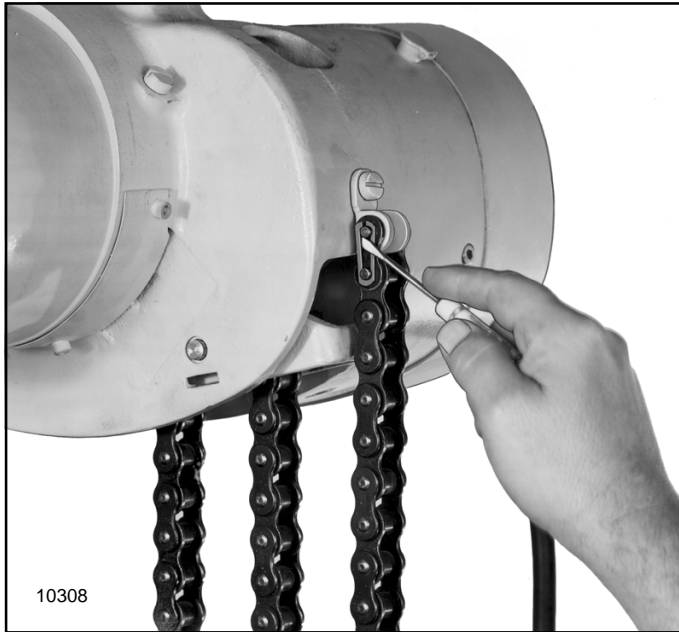

Figure 7-1. Removing Spring Clip from Connecting Link at Tail End of Load Chain (Roller Chain Models)
(1) On models with single-reeved load chains (1/4 thru 1 ton rated loads) disconnect tail end of load chain from anchor at side of frame. Remove spring clip and connecting link attaching chain to anchor on roller chain models (fig. 7-1). Remove fillister head screw holding end link to frame on coil chain models. Remove grooved pin from the limit actuator and pull it off end of chain. With hoist connected to power supply, run chain out of hoist by operating in "lowering" direction. (See note following paragraph (2) below and note in Sec. V, par. 5-2. a. (3) for inserting short length of chain.)